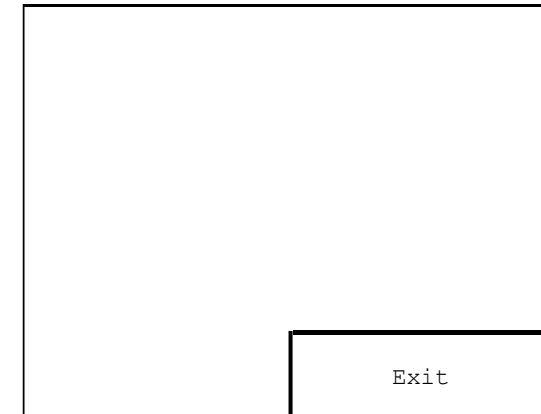

Fig.6
You can customize the program, by changing the selected waveform and / or the values of its characterizing parameters: duration of treatment, polarity, reversing half period and type of emission. To cancel the creation of the program, press the EXIT button: you'll return to the screen shown in Figure 6.
- press the EXIT button if you want to cancel the creation of the custom program, you return to the screen shown in Figure 6.
Once you select the storage medium, after a few seconds a screen will appear that informs you of the completion of the requested operation (fig. 23) then automatically returns to the screen fig.6.